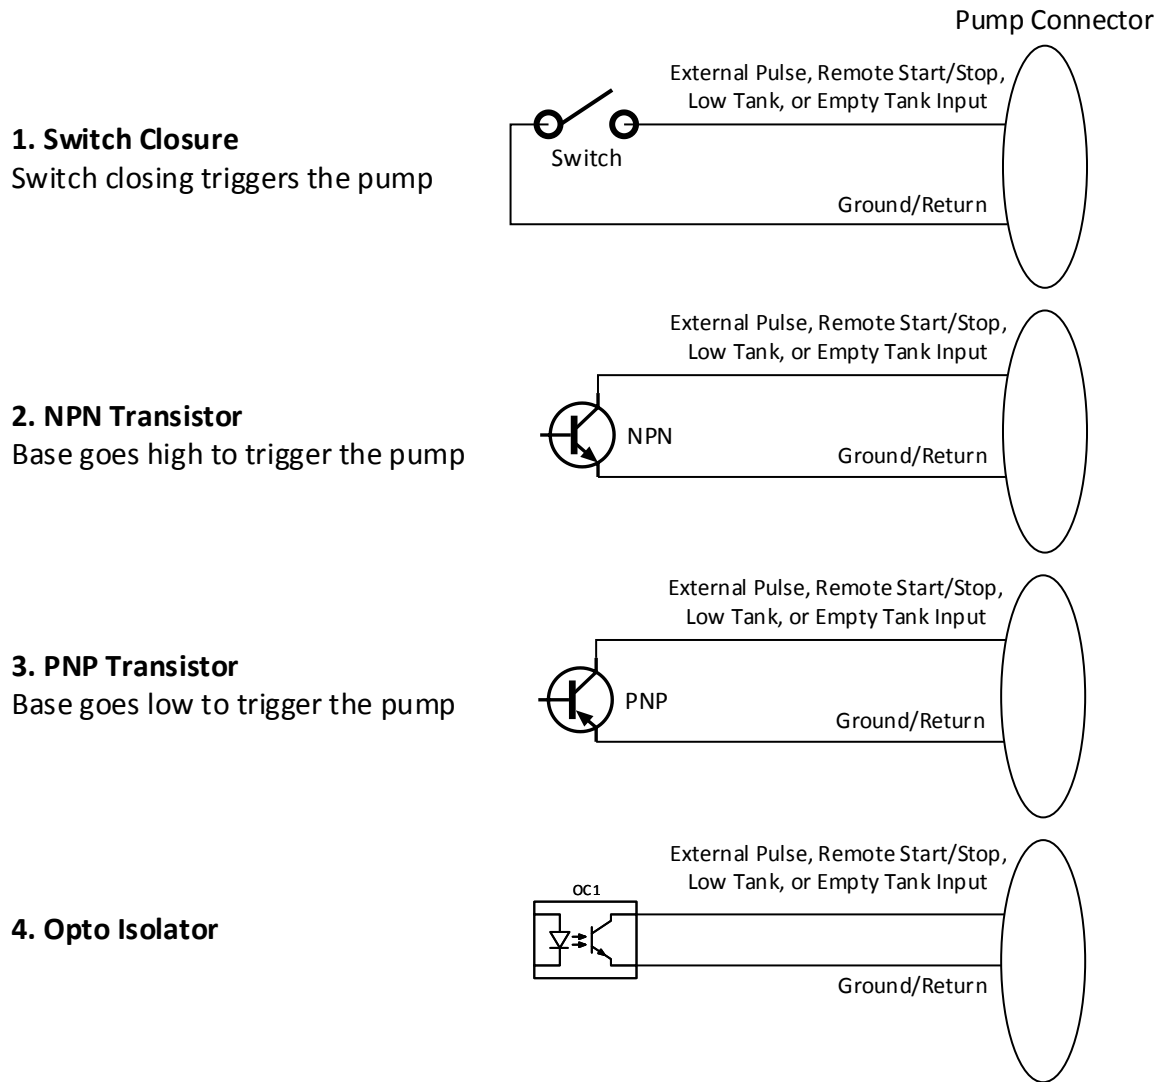

Figure 14: Methods of Externally Triggering the Pump
In External Pulse Mode, the pump relies on an incoming digital pulse to set the flow rate based on user settings. This allows for the pump speed to be set remotely by a controller such as the Liquitron DM7000, a PLC/SCADA system, or a flowmeter to dose a proportional amount of chemical to the process fluid. The pump will accumulate up to 500 pulses and continue to run until the demanded chemical is delivered. The External Pulse Signal Pin 3 is normally 24 VDC and must be connected to the Ground/Return Pin 2 to trigger a pulse. The switch or transistor used must be capable of switching 24 VDC at 15 mA. The minimum time in the low impedance state (ON) is configurable between 4 msec and 60 msec. Refer to Figure 14 for methods of externally triggering the pump.